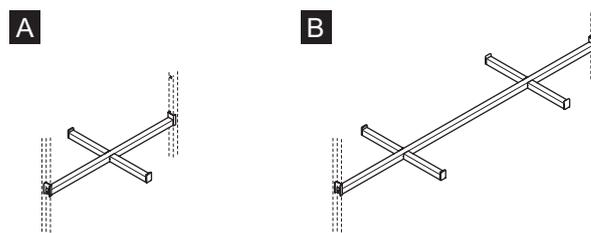

Fig. 8: Hanging rail with front arms
- Hanging rail with a front arm on each side for axis **650 mm** ▶ 25.591" (Fig. 8/A)
- Hanging rail with two front arms on each side for axis **1300 mm** ▶ 51.181" (Fig. 8/B)